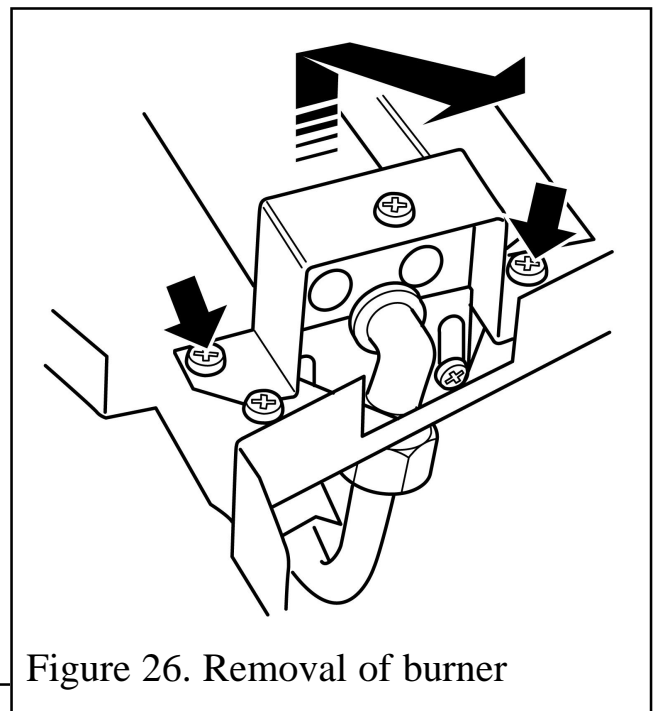

Figure 26. Removal of burner
(See figure 26).
3. Remove the two screws from the burner clamping plate (See figure 26).